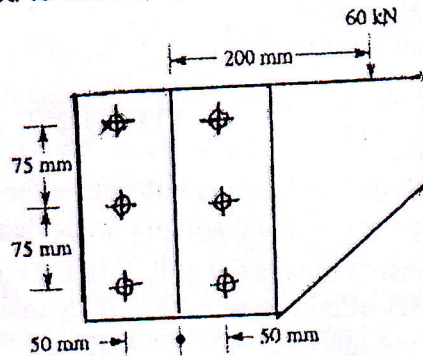

Fig. 1
- (b) A bracket is riveted to a column by 6 rivets of equal size as shown in Fig. 1. It carries a load of 60 kN at a distance of 200 mm from the centre of the column. If the maximum shear stress in the rivet is limited to 150 MPa, determine the diameter of the rivet. [7]